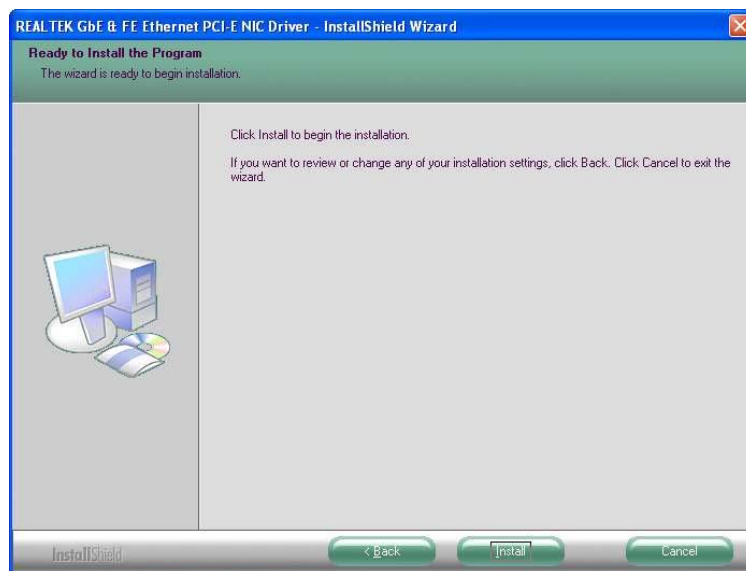

Figure 7-17: Realtek LAN Driver Install
Step 8: Click **INSTALL** to begin installing the driver (Figure 7-17). After the driver installation process is complete, a confirmation screen appears.